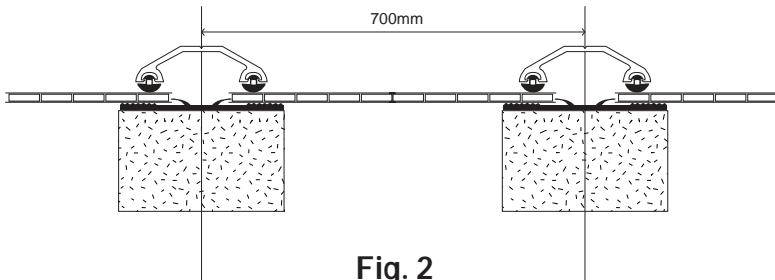

Fig. 2
Step 1: Measure and set out where the rafters and, if they are going to be used, purlins, are going to lie. 50mm wide rafters are normal when using the 500/501 system. 10mm sheet can be accommodated at maximum glazing centres of 700mm (Fig. 2).